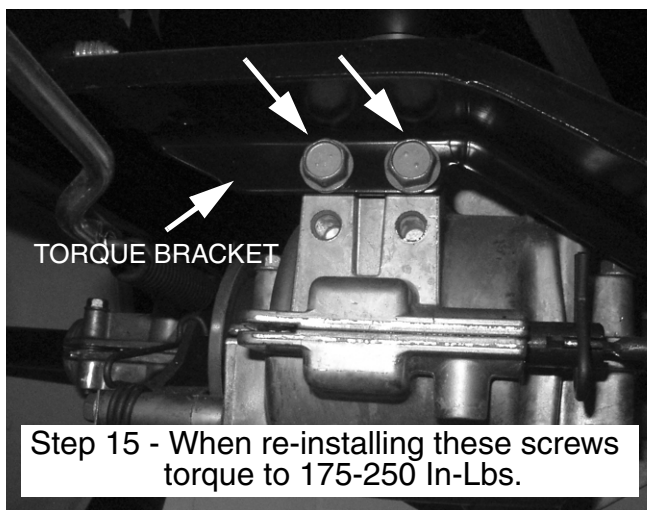

FIGURE 4
6. From the underside of the rider, using a 1/2" socket and ratchet, remove the two tapitite screw that attach the torque bracket to the transmission. See Figure 4.
16. Install the new Torque Bracket/Idler assembly into the rider in the reverse order of the **Removal Instructions**. Refer to Figure 4 for torque specifications.